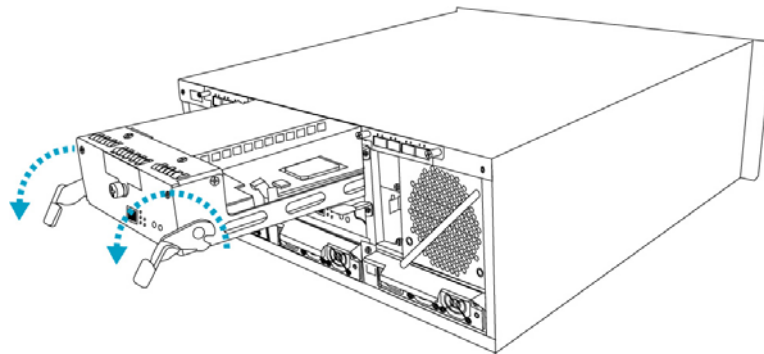

Figure 2-3: Removing the Controller Module
Step 3. **Remove the controller module.** Remove the retention screws securing the controller's ejection levers using a Phillips screwdriver. Using both hands, simultaneously press the ejection levers downward until the controller is removed from enclosure chassis. (See *Figure 2-3*)